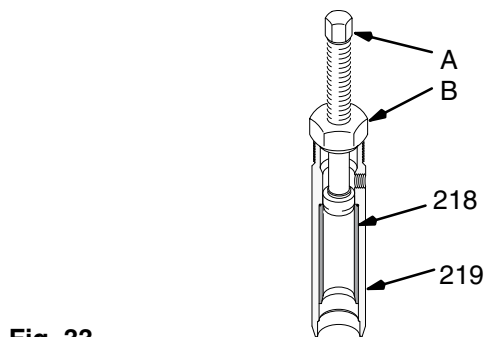

Fig. 33 0022
10. Screw the large nut (B) of the tool in to the top of the cylinder (19). Screw down the rod (A) to push the sleeve out of the cylinder. Remove the tool. See Fig. 33.